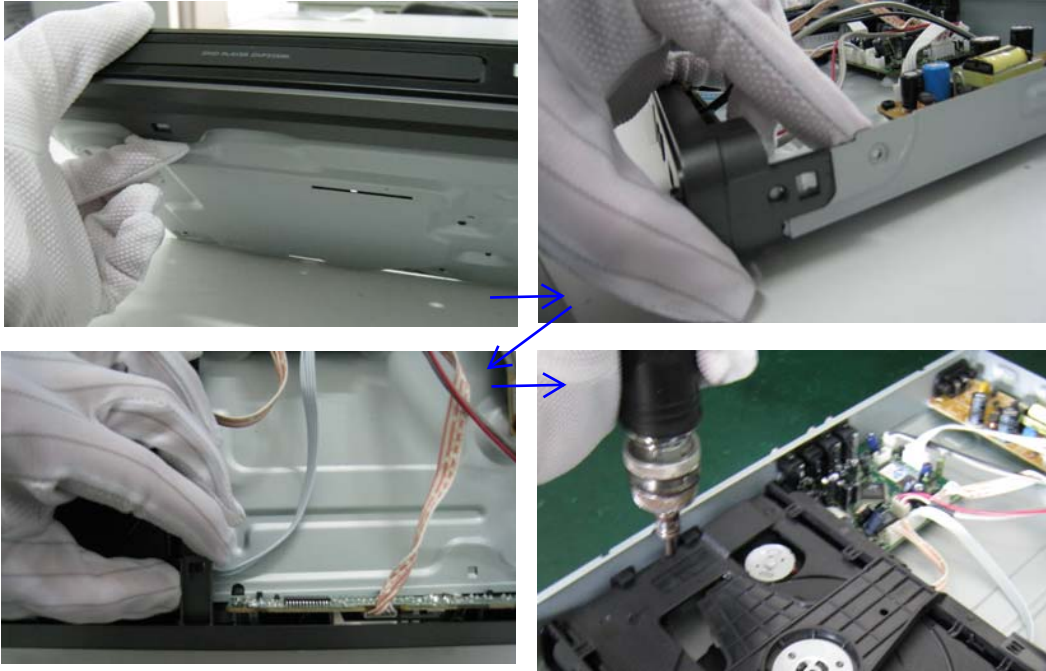

Figure 5
Step5: Dismantling Loader, disconnect the 3 connectors (XP2, XP3, XP4) aiming in the below figure, and remove 1 screw that connects the loader and the bottom cabinet. (Figure 5 & 6)